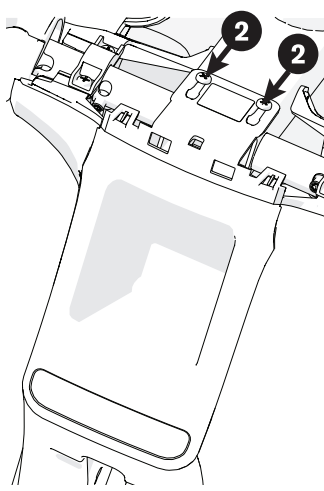

Figure 13
3. Position the shelf into the tabs near the top of the yoke cover, then secure it using two screws **2** (Figure 13).